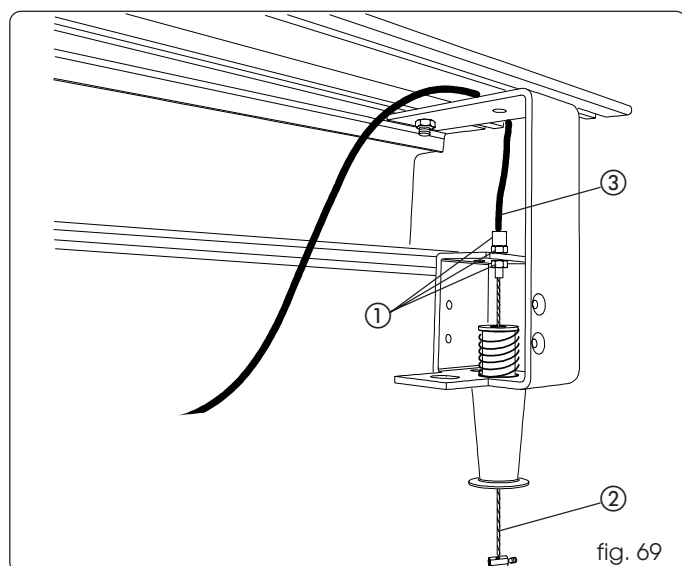

fig. 69
- Tighten the adjuster, with the relevant locknuts, on the internal part of the bracket (fig. 69 ref. ①).
- Secure the steel cable with the clamp and tighten the screw (fig. 69 ref. ②).
- Take the black sheath of the cable in contact with the adjuster (fig. 69 ref. ③).